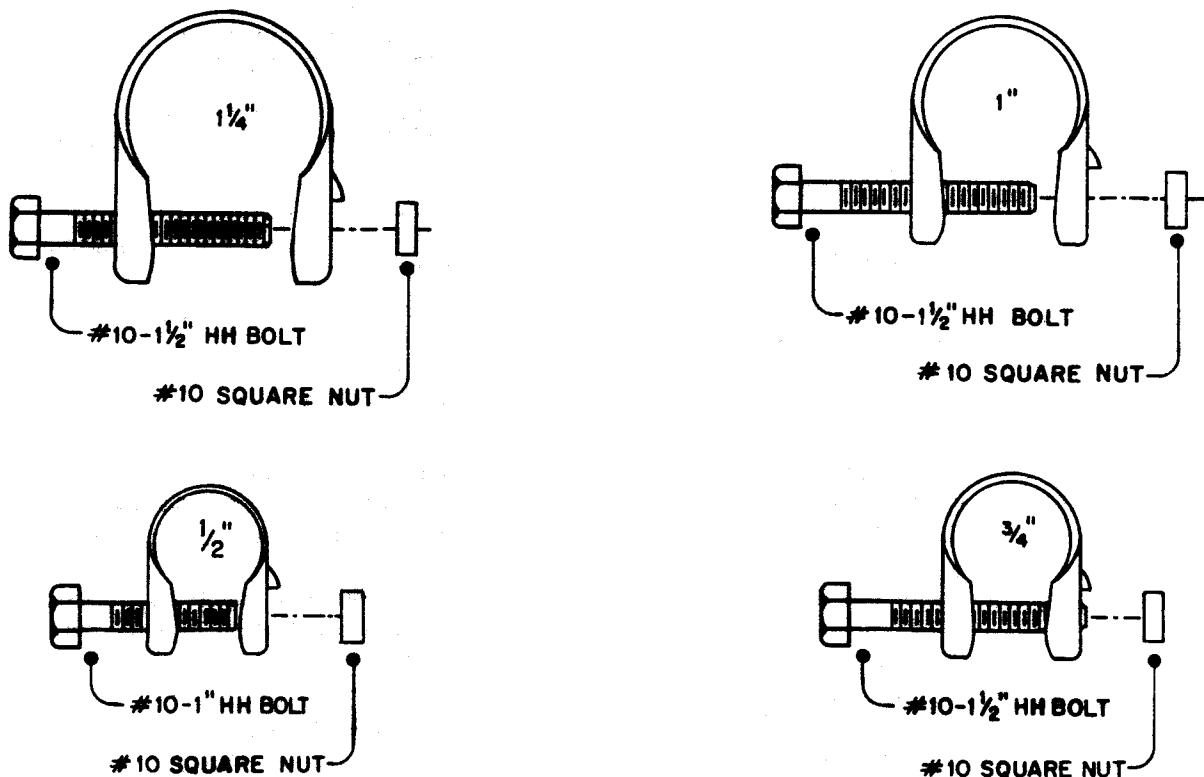

Figure 6. Compression Clamps
() Select a 1¼" clamp and its associated screw and nut and assemble as shown in Figure 6.
NOTE: Figure 6 shows all the clamps with their associated hardware.
() Assemble a 1" clamp as shown in Figure 6. Slip the assembled clamp over the end of DE2.
() Assemble a ¾" clamp as shown in Figure 6. Slip the clamp over the end of the DE3. Select the DE4 section and slip the unswaged end into DE3. Measure the dimensions shown in Figure 1 then tighten the clamp securely.
() Assemble a ½" clamp as shown in Figure 6. Slip the assembled clamp over the end of DE4.
- () Assemble the remainder of the Reflector Element in the same manner as the Driven Element. Refer to Figure 1 for tubing descriptions and dimensions and to Figure 6 for compression clamps.
- () Assemble the remainder of the Director Element in the same manner as the previous elements. Refer to Figure 1 for tubing descriptions and dimensions and to Figure 6 for compression clamps.